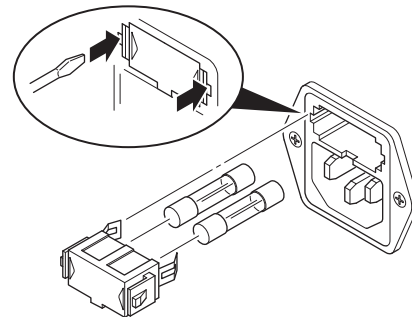

Figure 43 Fuse Replacement
3. Using a small flat blade screwdriver, gently pry open the cover of the fuse holder located on the back of the generator (see figure 43).